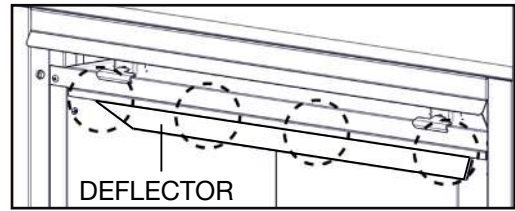

Fig. 1
- C.** To ease assembly, remove the four hex head screws securing the deflector from inside the top front of the firebox **(Fig. 1)**. Set deflector aside.